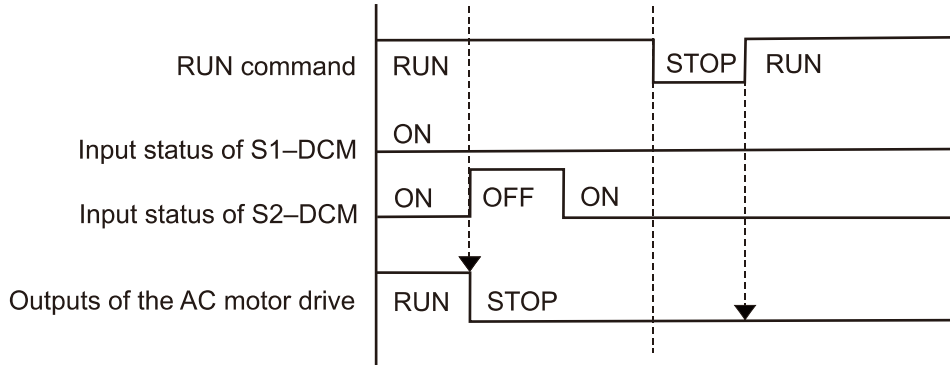

Figure 9
As shown in Figure 9, when S1-DCM is ON during operation (STO function is not required) and S2-DCM is OFF (STO function is required), the drive stops outputting and the keypad shows the STL2 error. However, you cannot reset the STL2 error even if the S2 status is restored (ON) regardless of the parameter setting. You must cycle the power to reset and to restore the drive to the normal standby state.